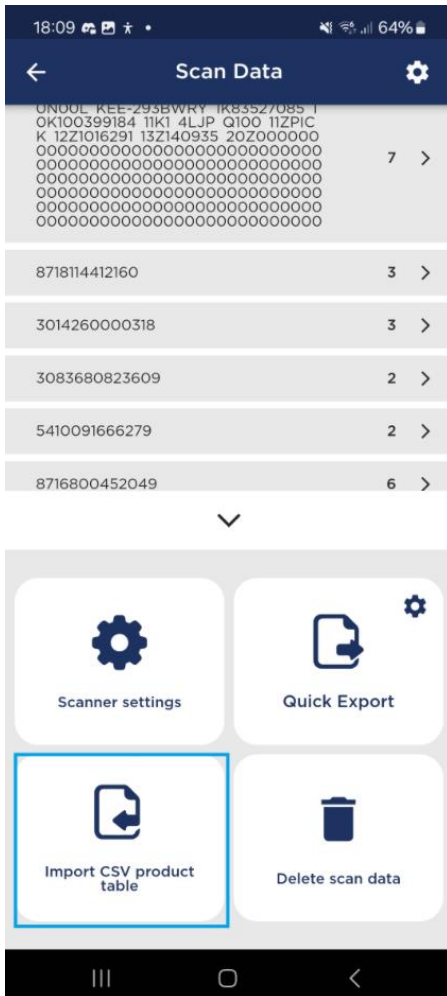

Figure 8-4: The *Import CSV product table* button in the Scan Data page.
Scanned Codes List (8): Displays a list of all scanned barcodes with their corresponding quantities. This list can be collapsed or expanded for better visibility and organization by pressing the arrow icon below it (see Figure 8-4). The arrow icon will only appear if the list grows to a certain size; otherwise, expanding is not possible.
Bottom Button Section: There is a button section at the bottom of the Scan Data page with four buttons (see Figure 8-4):
- At the bottom of the Scan Data page, press the *Import CSV product table* button to begin the import procedure (see Figure 8-4).